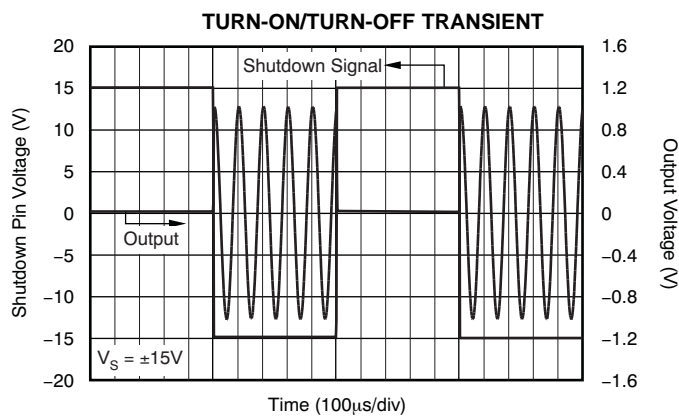

Figure 43.
(2) When disabled, the output assumes a high-impedance state.
(3) See Typical Characteristic graphs, Figure 41 through Figure 43.
(4) Typical θ_{JA} specification is based on the use of a high-k board.
The shutdown (enable) function of the OPA211 is referenced to the positive supply voltage of the operational amplifier. A valid high disables the op amp. A valid high is defined as $(V+) - 0.35V$ of the positive supply applied to the shutdown pin. A valid low is defined as $(V+) - 3V$ below the positive supply pin. For example, with V_{CC} at $\pm 15V$, the device is enabled at or below 12V. The device is disabled at or above 14.65V. If dual or split power supplies are used, care should be taken to ensure the valid high or valid low input signals are properly referred to the positive supply voltage. This pin must be connected to a valid high or low voltage or driven, and not left open-circuit. The enable and disable times are provided in the Typical Characteristics section (see Figure 41 through Figure 43). When disabled, the output assumes a high-impedance state.